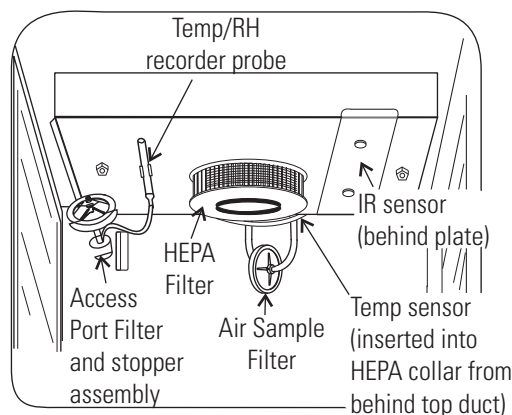

Figure 5-5. Filter Locations
5. Remove the HEPA filter, air sample filter and access port filter assembly (Figure 5-5). Tubing can remain in the unit during the sterilization cycle. In addition, remove the temp/RH recorder probe and IR sensor, if applicable. Discard the filters.